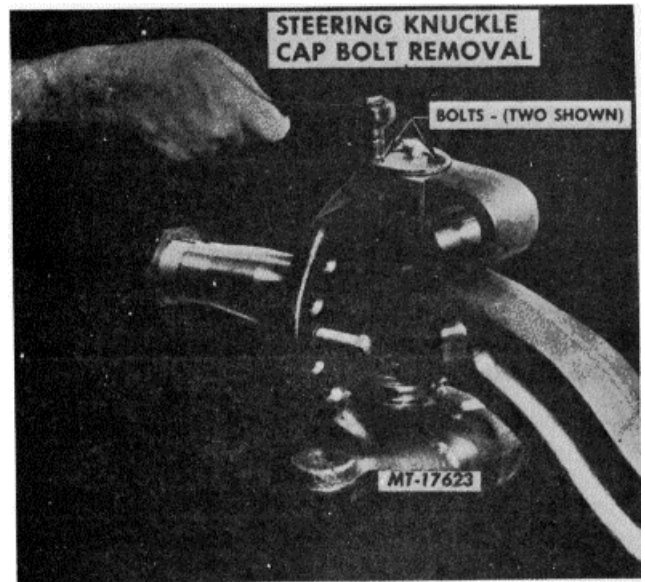

Fig. 4
4. Remove the cap screws or bolts, cover plate, gasket or O-ring from top of knuckle or remove lock ring retainer and seal, depending on model, Fig. 4.